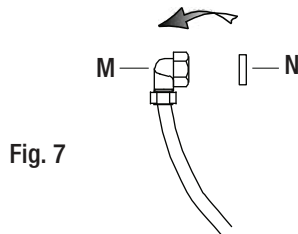

Fig. 7
- Place the rubber washer (N) onto the L-fitting (M), see Fig. 7.